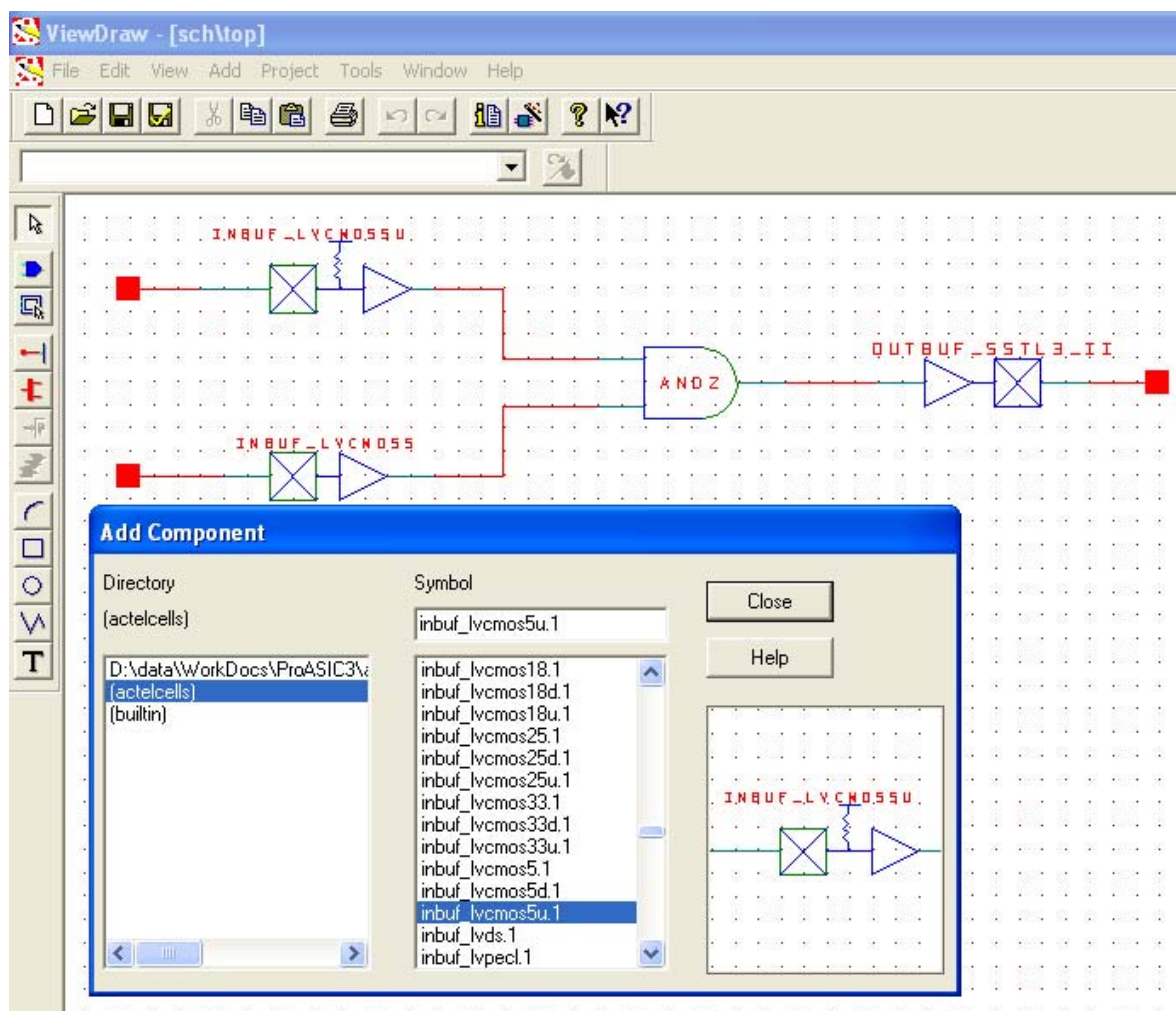

Figure 8-5 • I/O Buffer Schematic Cell Usage
5. Enter a name for the macro. Click **OK**. The core will be generated and saved to the appropriate location within the project files (Figure 8-5 on page 201).
Libero SoC software includes the ViewDraw schematic entry tool. Using ViewDraw, the user can insert any supported I/O buffer cell in the top-level schematic. Figure 8-5 shows a top-level schematic with different I/O buffer cells. When synthesized, the netlist will contain the same I/O macro.